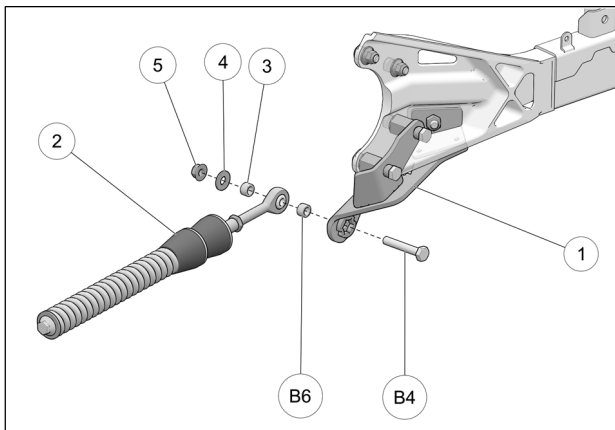

Fig. 11
11. Attach stabilizing rod (2) to anchor bracket (1), using bolt (B4), spacer bushings (B6 & 3), flat washer (4) and nut (5). Torque to 70 N•m [52 lb•ft]. See Fig. 11